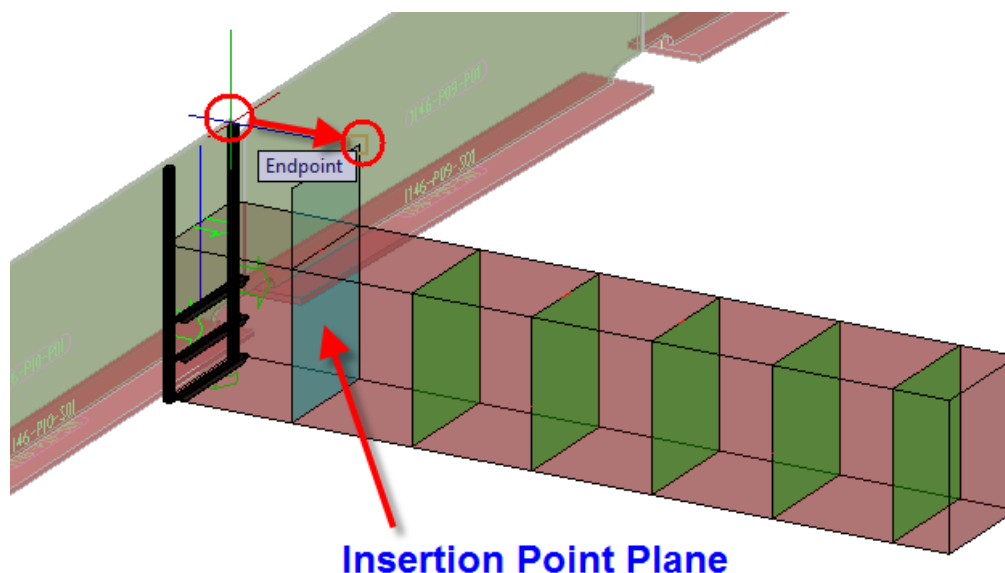

Figure 33: SCCableSupportArray - Specifying insertion point
**Insertion Point (command prompt) :** This is a 2D point on the space allocation profile plane at the first guide point (labeled insertion plane in Figure 33 below) that tells ShipConstructor where, relative to the profile, to place the selected cable support insertion point. If you just hit enter when prompted for this, ShipConstructor will use the guide base point projected onto the insertion plane as the insertion point.
In Figure 33, a stiffener is used as reference point for selecting the insertion point as it lines up with the bottom of the deck where the supports will be attached and with the edge of the space allocation that will contain them. The snap point is projected onto the insertion plane. You can see the selected insertion on the cable support configuration is at the AutoCAD cursor.